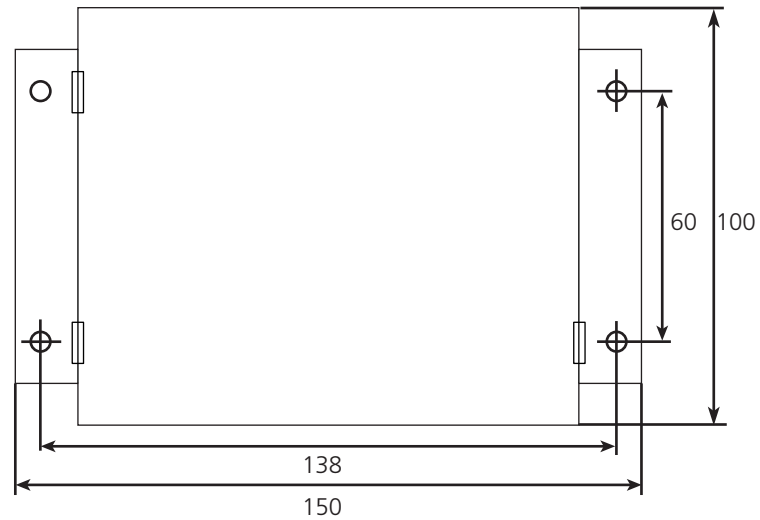

Figure 11. Mounting dimensions for L951PA in mm.
- 1 Fasten the case on the desired surface with four screws, see figure 11 for mounting dimensions.